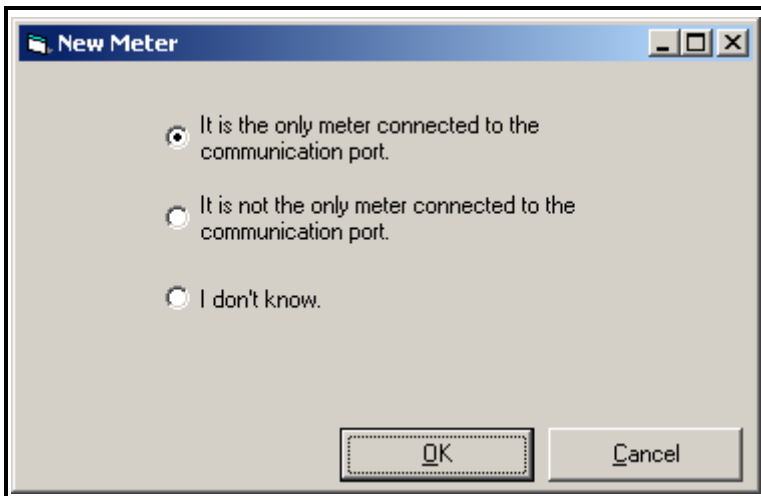

Figure 6: The Only Meter Dialog Box
5. After responding to the previous dialog box, the dialog box shown in Figure 6 below appears. In this instance, the PT878 communicates via an IR232 dongle connected to the comport. Therefore, select the *“It is the only meter connected to the communication port”* radio button and then click on the [OK] option button.